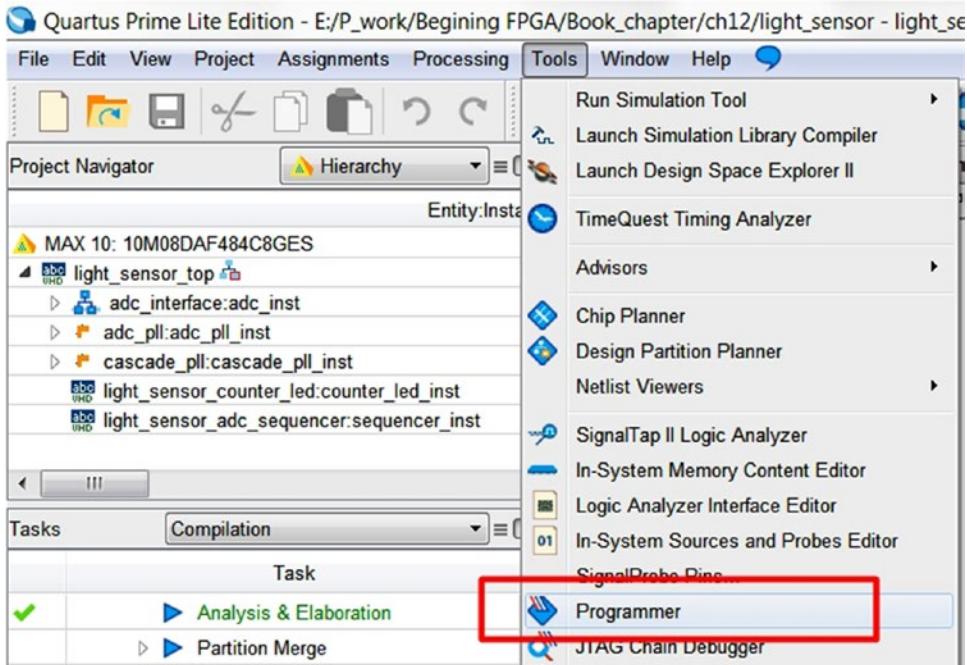
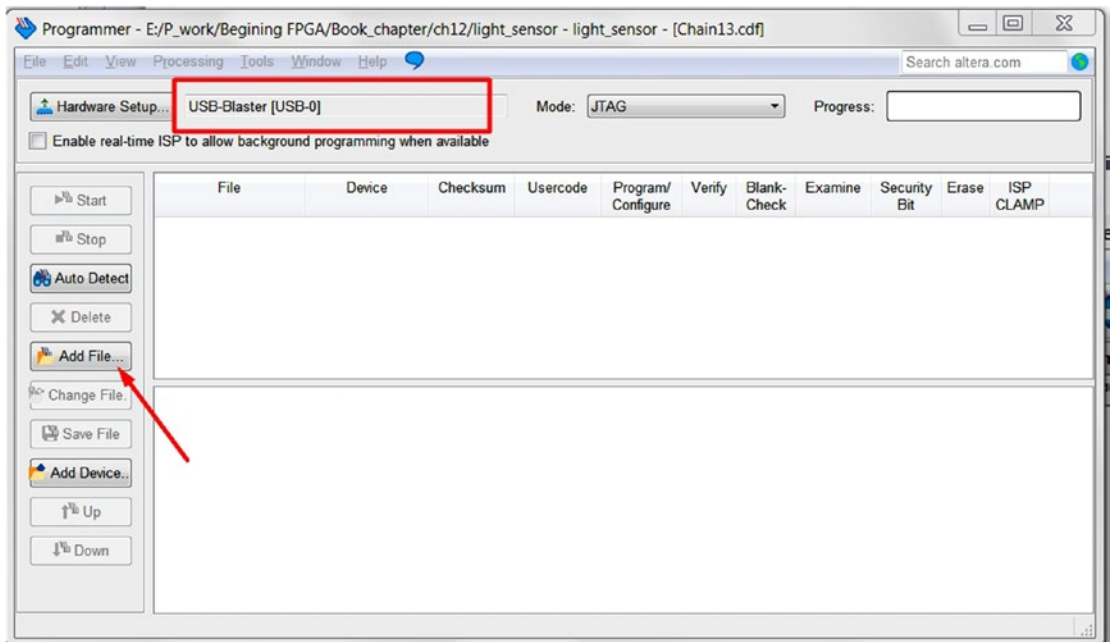
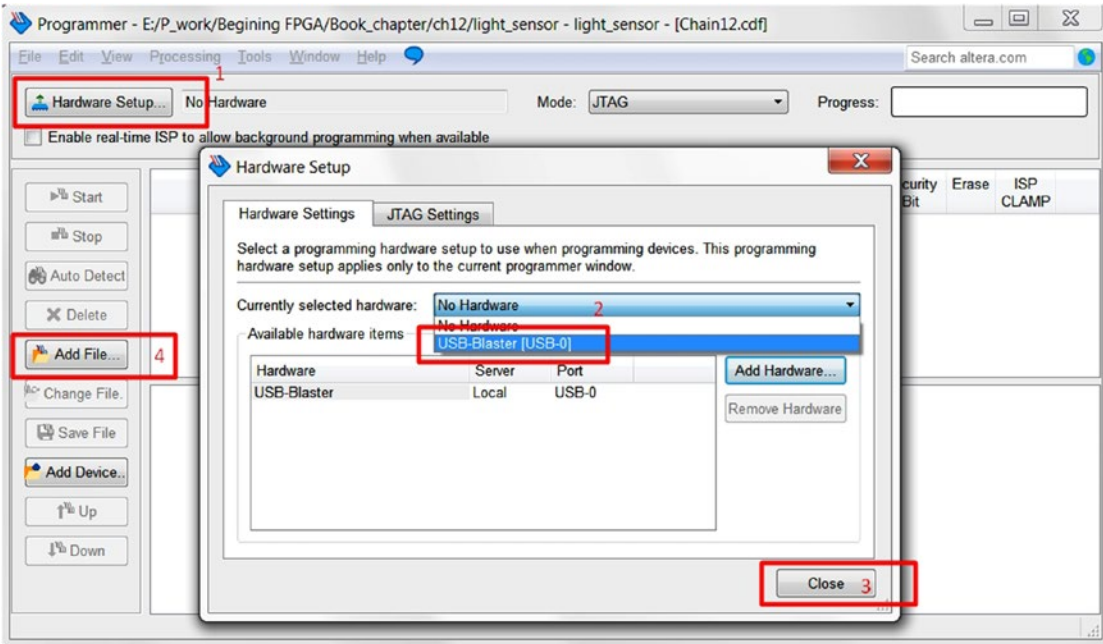

Figure 12-43. Open programmer in Quartus Prime
Figure 12-44. Programmer with the correct programmer setting
Figure 12-45. Programmer setting for a new USB-Blaster programmer
Step 1: Open the Quartus Prime programmer window from the Tools menu (Figure 12-43) or click from the toolbar. If the BeMicro Max10 board is connected and the USB-Blaster II device driver has been installed successfully on your computer (Figure 12-44), you can go to step 2. If your programmer is shown as in Figure 45, you need to plug in your BeMicro Max10 FPGA board. Before you can go to step 2, you need to follow the steps in Figure 12-45.